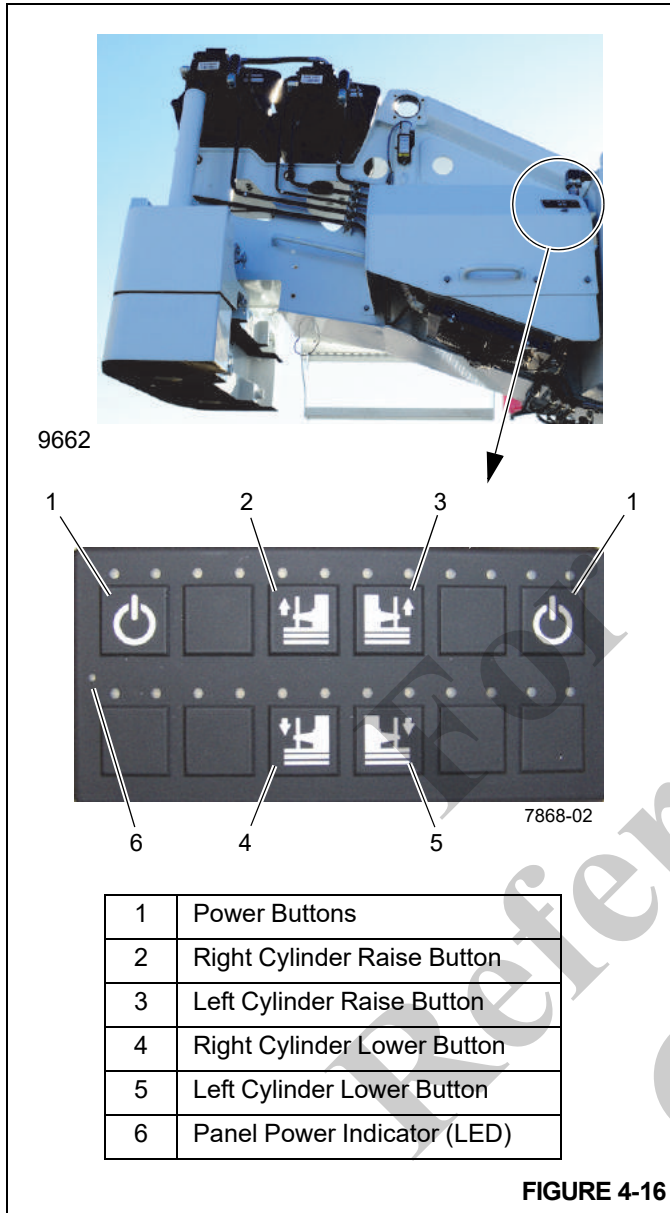

FIGURE 4-16
Figure 4-16 shows the counterweight control panel. A control panel is located on each side of the superstructure. The control panels function only if the Crane Function Power Switch is turned off, an armrest is in the up position, or there is no one sitting in the crane cab operator's seat. A green LED (6, Figure 4-16) on the left side of the control panel illuminate to indicate the control panel is operational.
To initiate the function, press and hold the power button (1), then the counterweight raise or lower button (4, 5, Figure 4-16). If a counterweight removal cylinder raise or lower button (4, 5, Figure 4-16) is pressed without first pressing and holding a Power Button (1, Figure 4-16), a red LED above that button will flash.
- Using the counterweight control panel (Figure 4-16) located on either side of the superstructure, lower the counterweight cylinders. For more information, see *Lowering the Counterweight Cylinders*, page 4-24.
7. Using counterweight switch panel (Figure 4-16) located on either side of the turntable, slightly raise the counterweight removal cylinders. For more information, see *Raising the Counterweight Cylinders*, page 4-24.
9. Using the counterweight switch panel (Figure 4-16), fully lower the counterweight removal cylinders. For more
9. Using counterweight control panel (Figure 4-16) located on either side of superstructure, lower the counterweight removal cylinders. For more information, see *Lowering the Counterweight Cylinders*, page 4-24.
11. Using the counterweight control panel (Figure 4-16), fully raise counterweight removal cylinders. For more information, see *Raising the Counterweight Cylinders*, page 4-24.
8. Using the counterweight control panel (Figure 4-16), fully lower counterweight removal cylinders. For more information, see *Lowering the Counterweight Cylinders*, page 4-24.